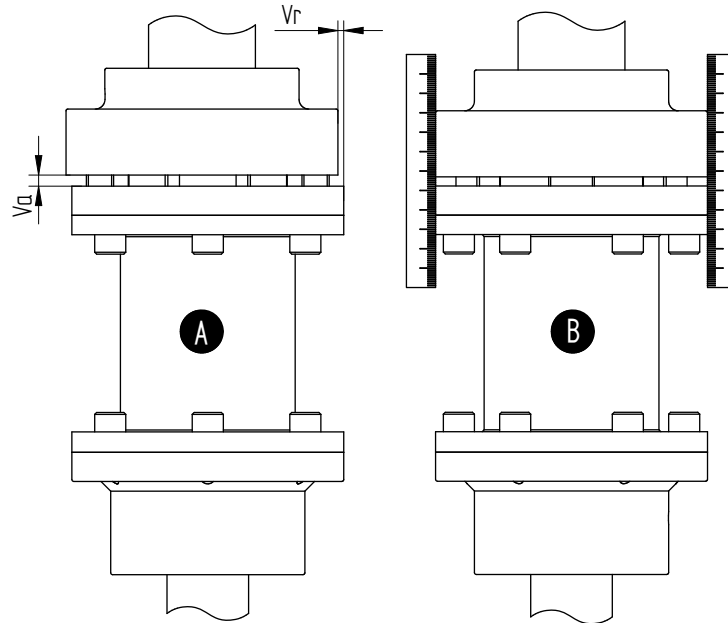

Figure 2: Alignment of the coupling.
- 7 Push the upper coupling half downward. For the correct distance between the coupling halves, see figure 2 with the corresponding table. Then secure the coupling half on the motor shaft.